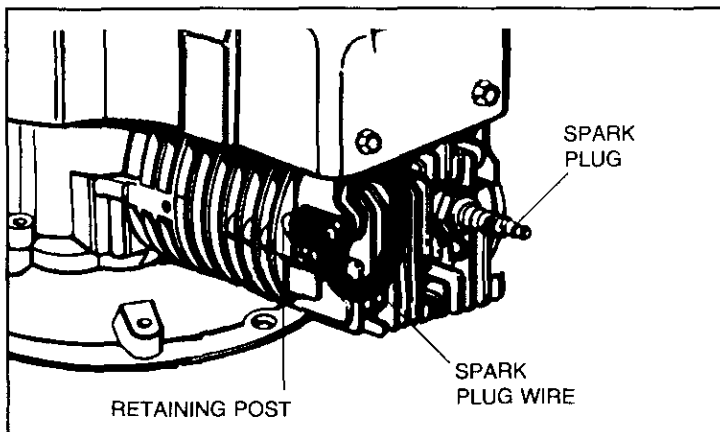

Figure 5
**A. DISCONNECT SPARK PLUG WIRE FROM SPARK PLUG AND ATTACH IT TO RETAINING POST (see Figure 5).**